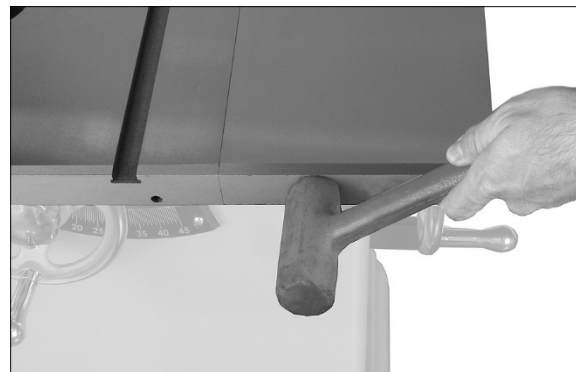

Figure 5
3. The front edge of table extensions must be flush with front edge of saw table. If needed, tap front edge of wing with a rubber mallet to make flush. See Figure 5.